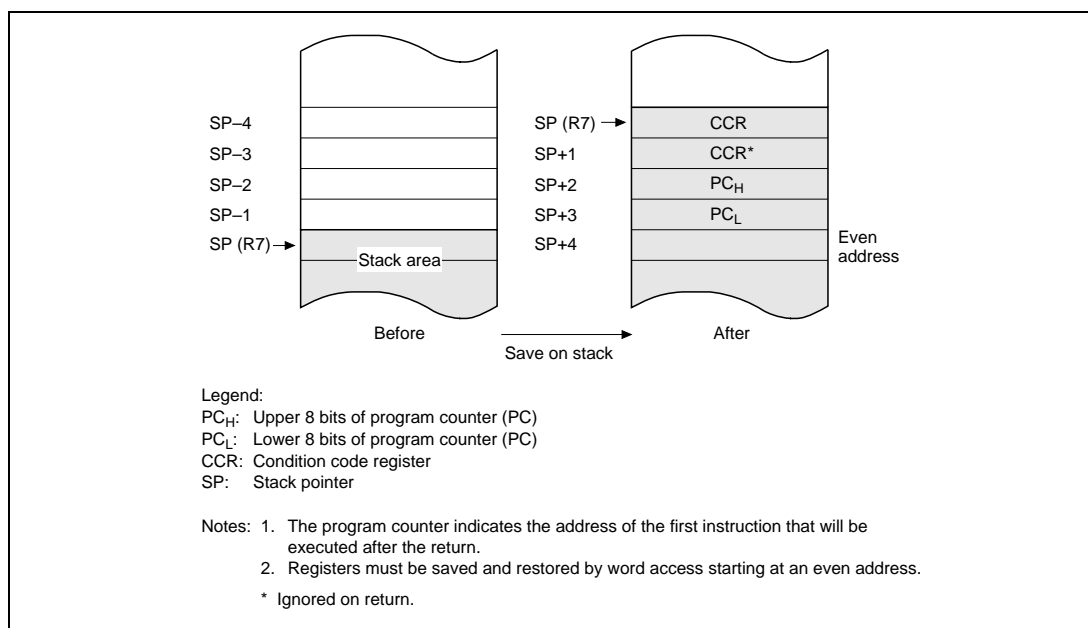

Figure 2.13 Stack before and after Interrupt Exception-Handling Sequence
1. When the interrupt request is accepted, a transition takes place from sleep mode to the exception-handling state. The program counter and condition code register are saved on the stack as shown in figure 2.13. The program counter address saved on the stack is the address of the first instruction that will be executed after the return from the interrupt-handling routine.